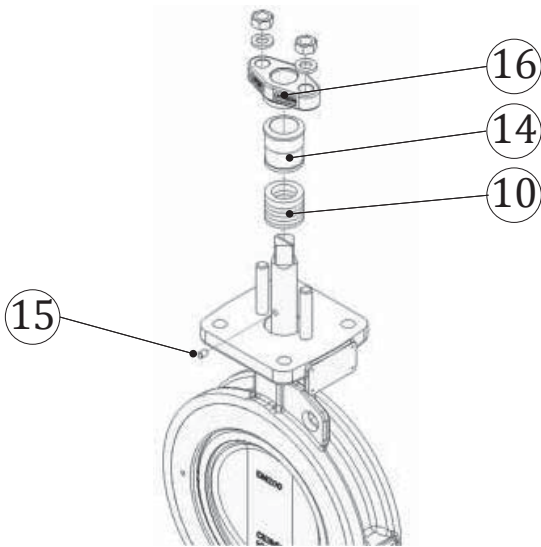

Figure 4.3 Stuffing box disassembly
2. Remove the GLAND (16) after loosening the gland nuts and spring washers.
3. Remove the ANTI-BLOWOUT PIN (15) pin and GLAND BUSHING (14) sequence, and then remove the GLAND PACKING (10) by Gland Packing Extractors as Fig. 4.3.